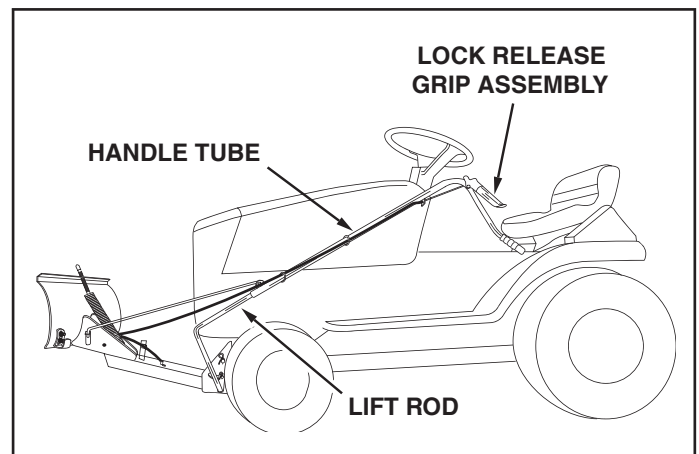

FIGURE 26
- Raise the blade to transport position. To unlock the blade, push the lock release grip down against the handle tube. To pivot the blade, keep the grip depressed and push forward or pull back on the handle tube, sliding it along the lift rod. Release the grip to lock the blade when it is in either the right hand, the left hand or the straight ahead position. See figure 26.